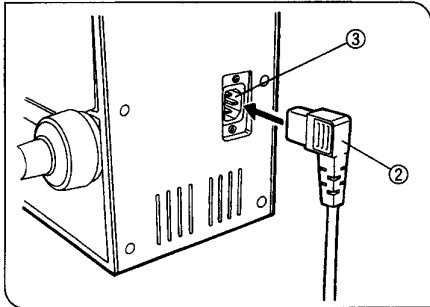

Fig. 9
1. Connect the power cord plug ② to the AC receptacle ③. (Fig. 9)